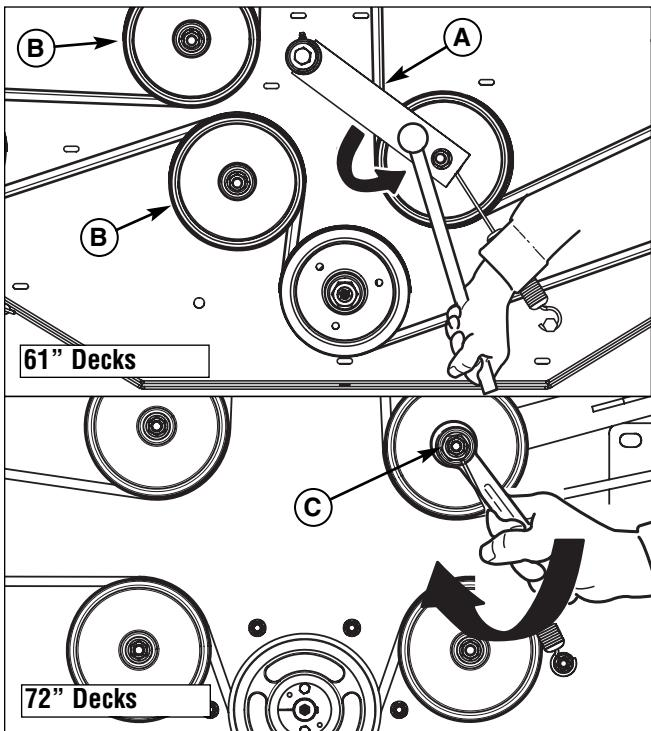

Figure 42. Mower PTO Belt
- For 61" Decks:** Using a 1/2" breaker bar, place the square end in the square hole located in the end of the idler arm (A, Figures 42). Carefully rotate the breaker bar COUNTER-CLOCKWISE, which will relieve the tension on the belt exerted from the idler arm.
For 72" Decks: Using the 3/4" combination wrench, place the box end on the nut (A, Figure 42) that secures the idler pulley located at the end of the idler arm. Carefully roate the wrench CLOCKWISE, which will relieve the tension on the belt exerted from the idler arm.
- For 61" Decks:** Install the drive belt on the PTO pulley, the spindle pulleys and all idler pulleys except the stationary pulley (B, Figure 42). Carefully rotate the breaker bar COUNTER-CLOCKWISE and install the belt on the stationary idler pulley (B). Carefully release the tension on the breaker bar.
- For 72" Decks:** Install the drive belt on the PTO pulley, the spindle pulleys and all idler pulleys except the stationary pulley (B, Figure 42). Carefully rotate the combination wrench CLOCKWISE and install the belt on the stationary idler pulley (B). Carefully release the tension on the combination wrench.